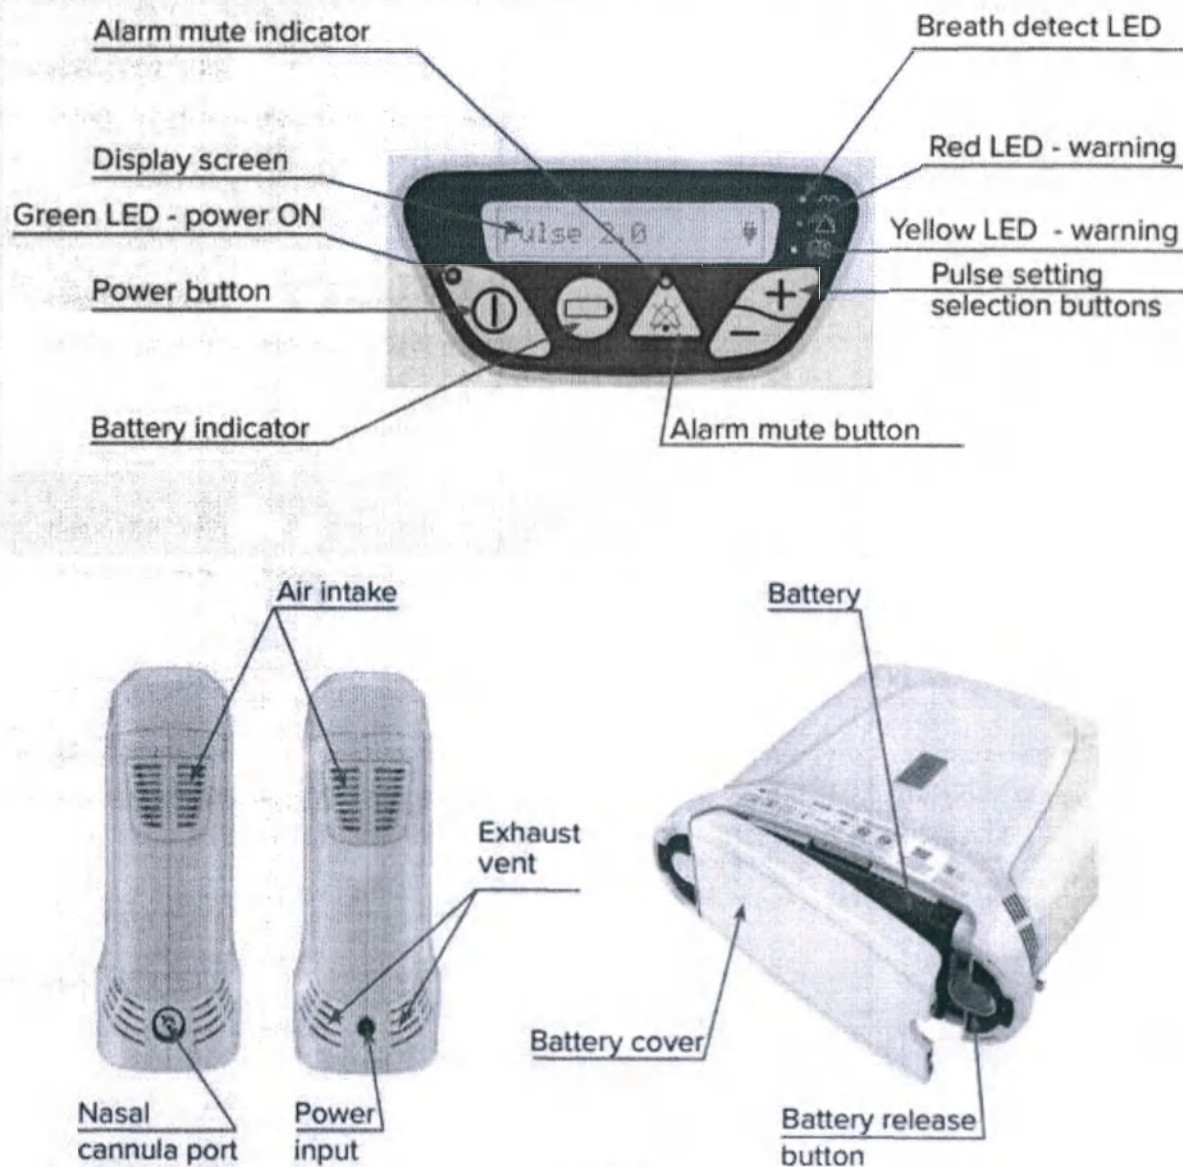

Fig. 1
34. The device can be isolated from power by disconnecting the power supply from the input connector, see fig. 1, position the device for easy access to the power supply input connector.